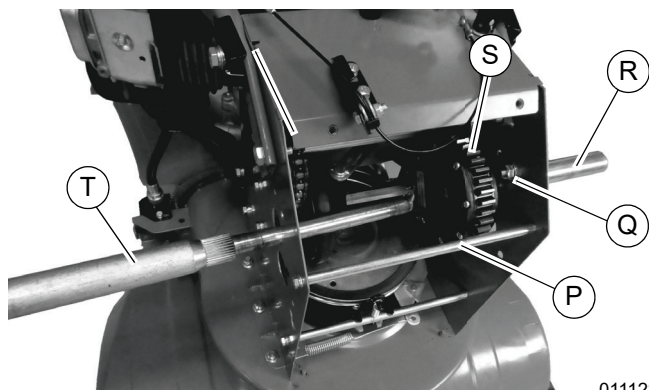

Figure 4-26. Rear Strut Assembly
12. Remove the two bolts, lock washers, flat washers, and locknuts securing right side wheel bearing assembly (O) using two 13mm wrenches. Remove the bearing assembly from the axle.
13. See Figure 4-26. Remove the two rear strut bolts and lock washers using a 10mm wrench and remove strut (P).